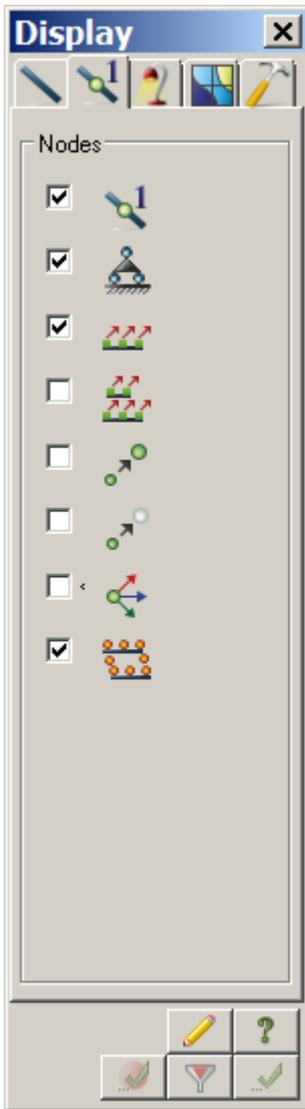

Figure 2.4 Create plane fragments and grids dialog box
- ⇒ In the **Display** dialog box (see Fig.2.4), select the **Node numbers** check box on the **Nodes** tab.